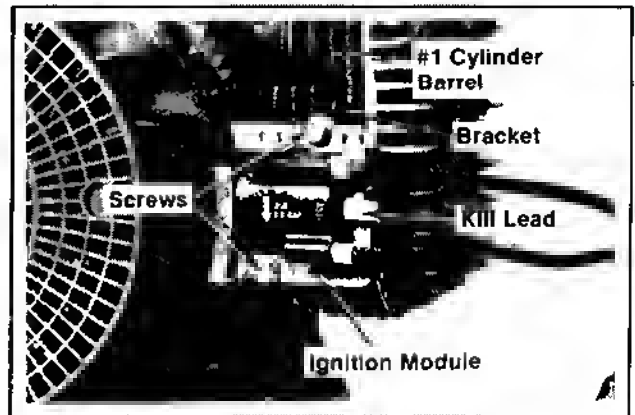

Figure 8-5. Removing Ignition Module.
2. Remove the kill lead from kill terminal of module. Refer to Figure 8-5.
2. Insert a .014" flat feeler gauge (or shim stock) between the magnet and module. Refer to Figure 8-5.